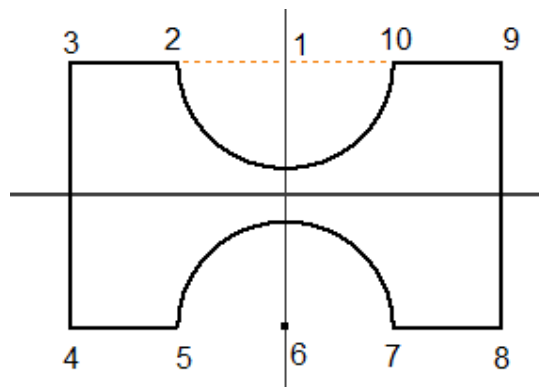

Figure 2-66 Sketch showing different points for Tutorial 3
7. Move the cursor toward the left in the Graphics window. Enter **12** in the length input field, press the TAB key, and then enter **180** in the angle input field in the Dynamic Input; the line between points 2 and 3 is created. Refer to Figure 2-66 for point numbers.
1. In Figure 2-66, the major and minor grid lines and the triad have not been displayed for a better display of the sketch and the imaginary lines.